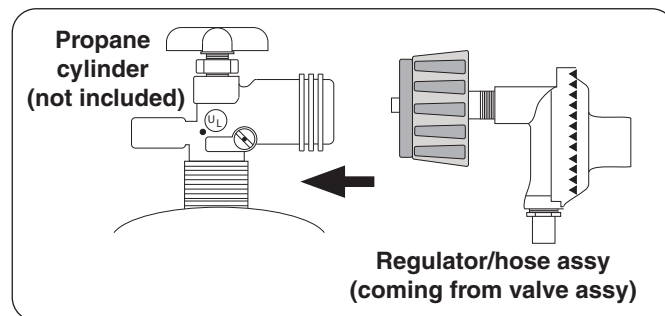

Fig. 26-2 Connecting to an L.P. Cylinder
1. Attach the regulator end of the hose assembly to a propane cylinder (not included) and tighten (see Fig 26-2).